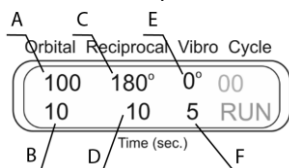
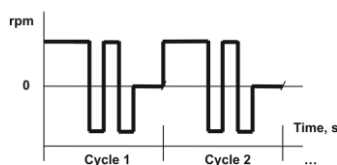

Figure 8
Figure 9
- **3D orbital + 3D reciprocal + pause** (figure 8). Set the speed (**A**, 1–100 rpm) and time (**B**, 1–250 s) of 3D orbital motion. Set the turning angle (**C**, 0–360°) and time (**D**, 1–250 s) for 3D reciprocal motion. Set the angle of (**E**) 3D vibro type motion to zero. Set the time for 3D vibro motion (**F**, 1–5 s), this is the duration of the pause. Figure 9 shows 3D orbital and 3D reciprocal motions and pause run one after another in cycles.